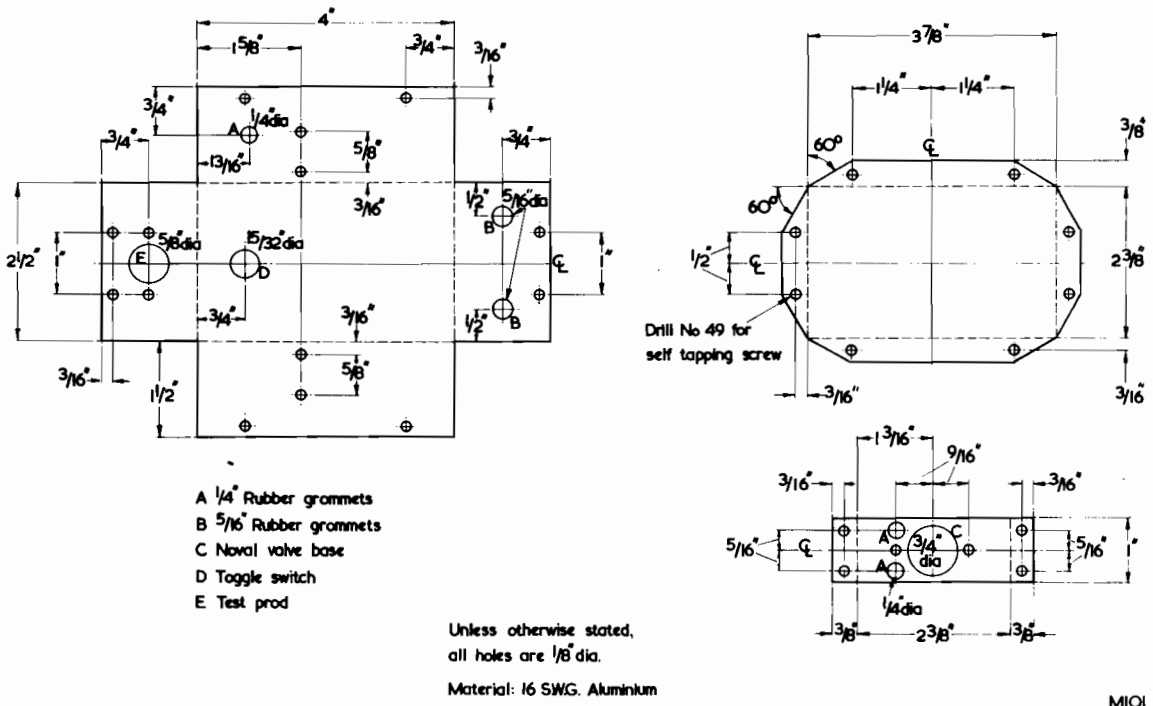

Fig. 10. Chassis drilling details for the high-gain probe
- Chassis and box (see Fig. 10)
The probe is mounted in a small box 4 x 2½ x 1½ in made from 16 s.w.g. aluminium. The valve is mounted on a small bracket inside, and the prod is fitted to one end on a piece of 1/8 in Perspex, an earth lead being provided through a rubber grommet at the side. The construction of this should be clear from Figs. 10 and 11.